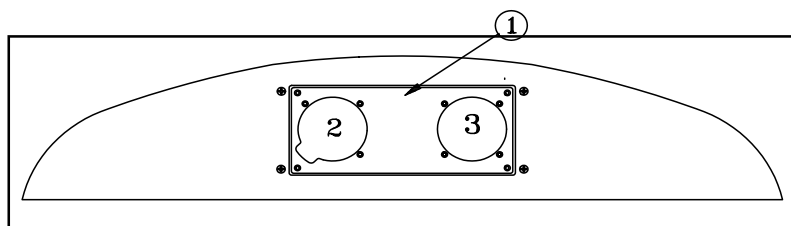

Figure 2 Front Instrument Panel
From Serial No. 27 these instruments (2, 3, Figure 2) are installed on a separate removable instrument panel (1) incorporating shock mounts.